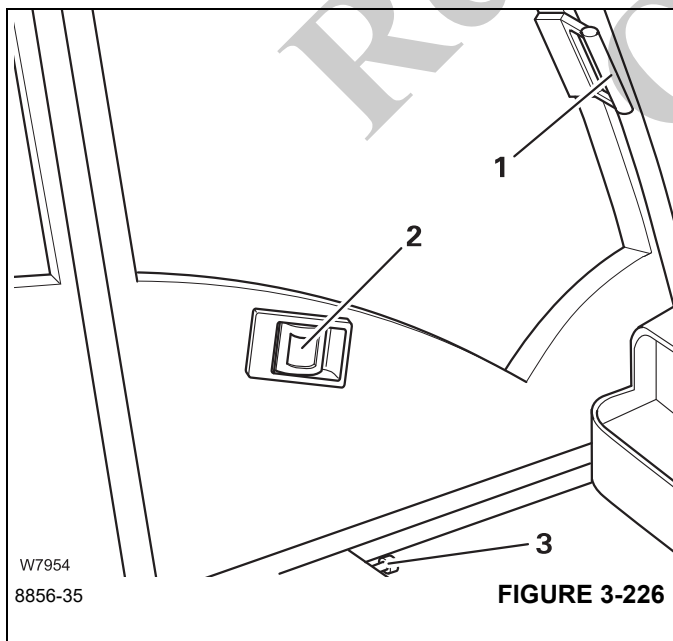

FIGURE 3-226
Pull unlocking lever (3), (Figure 3-226), push door forwards by handle (1) – until it latches.